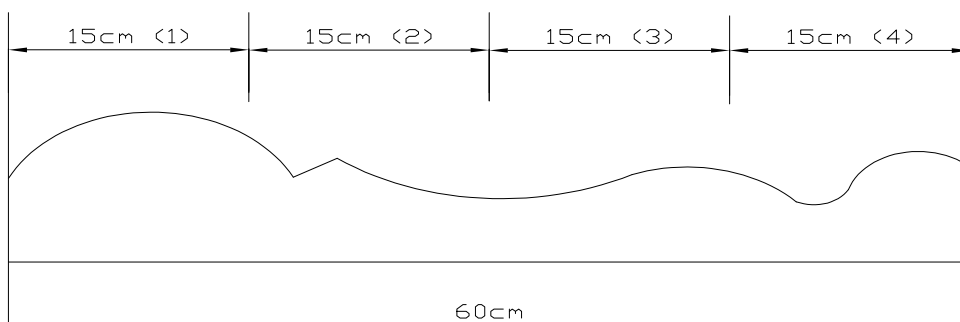

FIG.15
(2)Example: decorative line with a span of 60cm can be processed using separately 4 grinding wheels.(FIG.15)